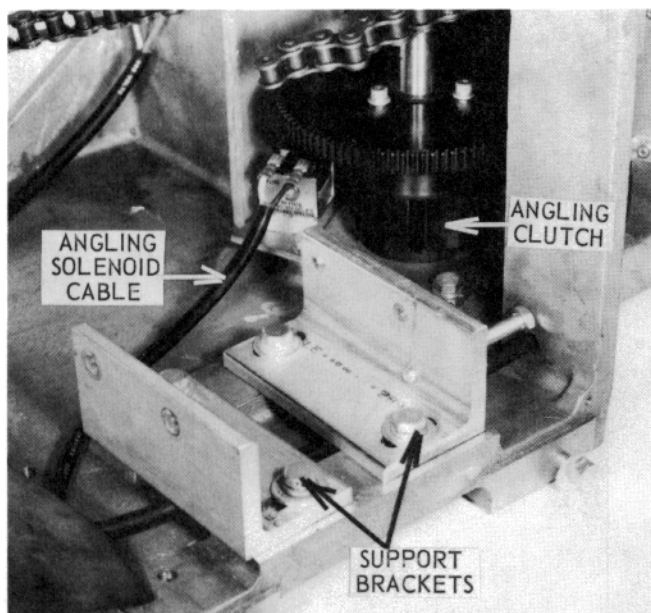

Figure 73 — Angling Solenoid Cable, Angling Clutch, and Speed Reducer Brackets
- 6.1.9 Remove the angling solenoid cable and speed reducer brackets to get to the angling clutch (see Figure 73).